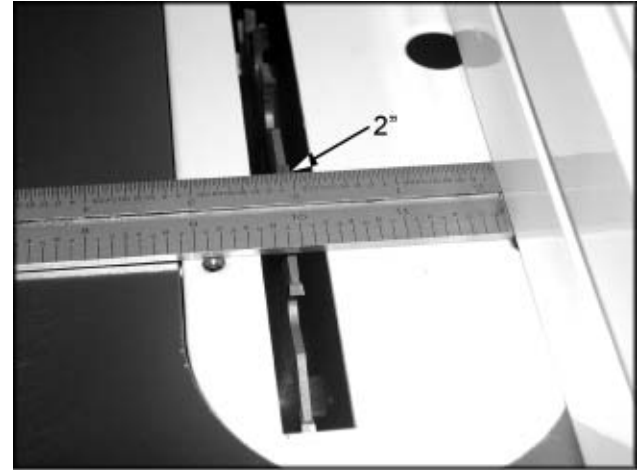

Fig. 9
6. Move fence so that the cursor reads 2" on the scale. Measure from fence to the saw blade, Figure 9. The measurement should also show two inches. If not, loosen two screws on the cursor and move to the correct position. If you still do not get correct measurement you can loosen front rail screws and adjust slightly to left, or right.